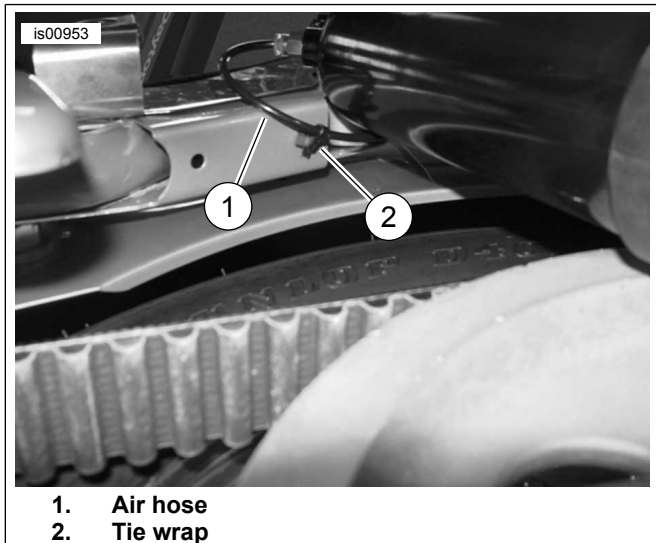

Figure 2. Airhose Routing on 2003 Models
8. On 1997-2002 models, fasten the air fittings through the lowest two holes in the right-side bracket. On 2003 and later models, See Figure 2. Remove the left side shock air hose from the air valve and reroute it underneath the top shock mount. Locate the rear unused hole in the underside of the fender strut, just in front of the left shock. Use a tie wrap (HD Part Number 10073) to anchor the air hose to this hole and prevent it from getting a kink or getting pinched. Reinstall the air hose to the air valve and install the air valve in the bottom front hole of the left-hand bracket. Add air to the shocks according to the applicable Service Manual.